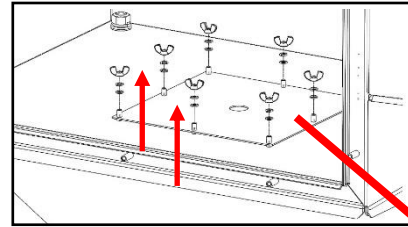
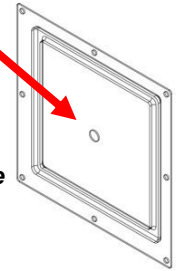

Figure 19—Removable Plate inside bottom of charger
Figure 20—Down-side of Removable Plate
5. Remove 8 sets of M5 wingnut, split washer, and flat washer securing removable plate to charger (Figure 19), then remove plate (Figure 20), taking care not to damage gasket attached to down-side.
5. Remove all 8 sets of M5 wingnut, split washer, and flat washer securing removable plate to charger (Figure 19) and then remove plate while taking care not to damage gasket attached to plate's downside (Figure 20).